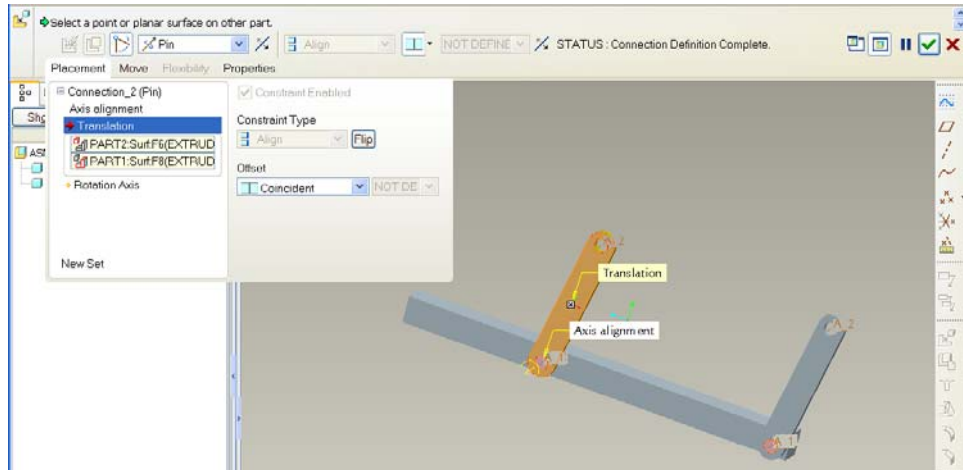

Figure 11
- d) Choose Surface F8 on part1 and surface F6 on part2 for translation as shown in figure 11 and click .